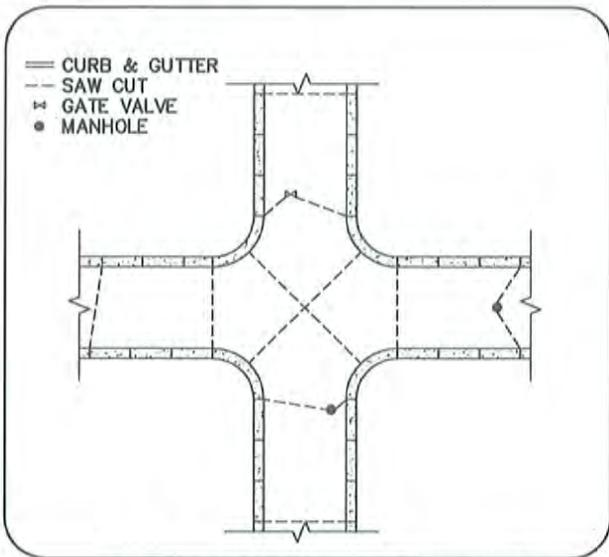

FIGURE 1. NO MANHOLES IN THE INTERSECTION
1. WHEN USING SAW AND SEAL IN AN URBAN SETTING WHERE CURB AND GUTTER IS PRESENT THE SAW CUTS SHOULD LINE UP WITH THE CONTROL JOINTS IN THE GUTTER SECTIONS WHENEVER POSSIBLE AT 30' INTERVALS, EVEN IF THIS RESULTS IN A SLIGHTLY SKEWED JOINT AS SHOWN IN FIGURES 1 AND 2.
2. IN INTERSECTIONS, SAWING SHOULD BE SIMILAR TO FIGURES 1 OR 2 DEPENDING ON WHETHER MANHOLES ARE PRESENT.